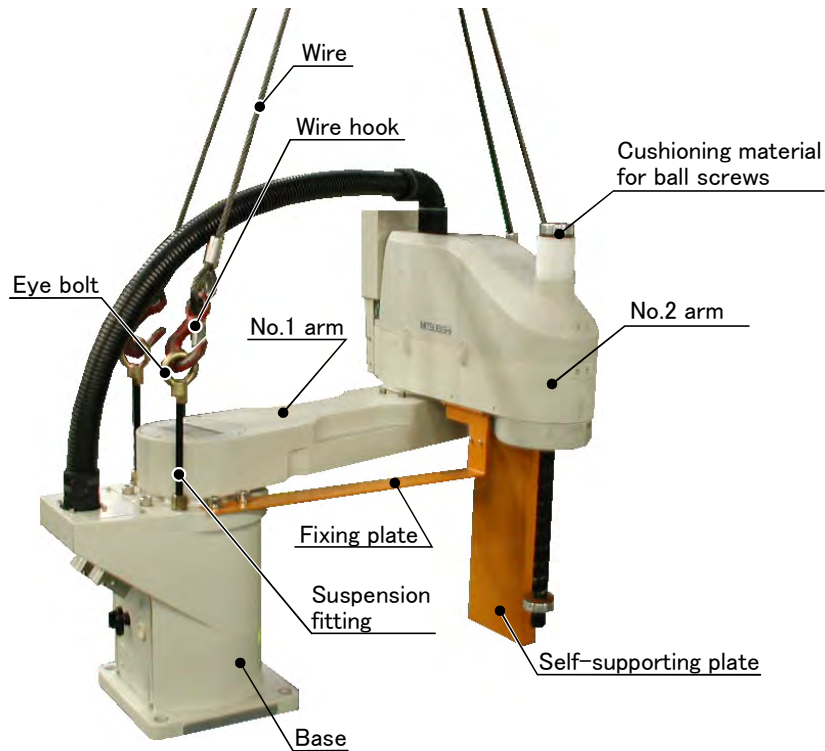

Fig.2-3 : Transportation of robot arm
- 5) After installing the robot (refer to "2.2.4 Installation procedures" on page 9), remove the wires, the wire hooks (the robot will stand by itself as shown in Fig. 2-3), the self-supporting plate, suspension fitting and fixing plate.